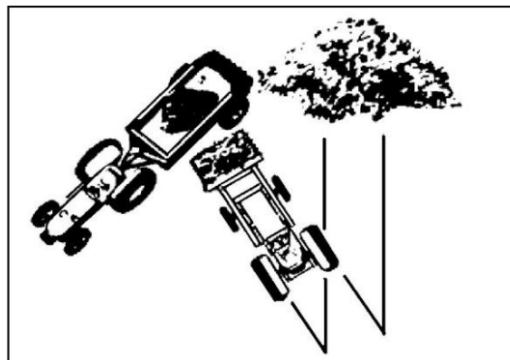

Fig 4.17. Faster loading.
- For faster loading, minimize the angle of turn and length of run between pile and spreader shown in figure 4.17.